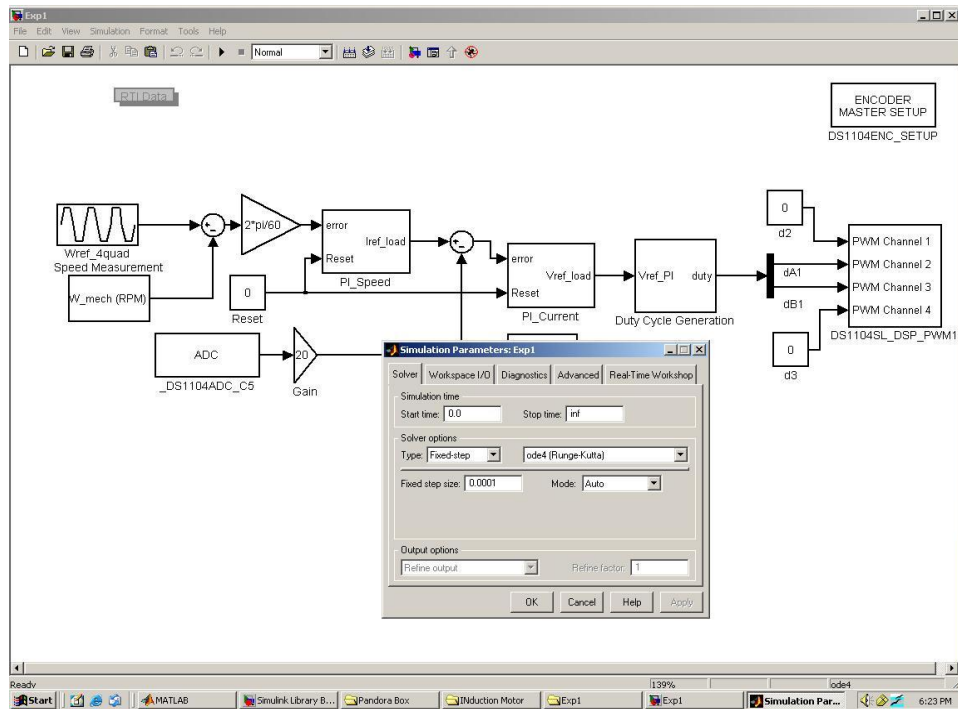

Figure 1.5: Simulink file Exp1.mdl, setting the simulation parameter
- The Simulink file **Exp1.mdl** will look as shown in Fig 1.5. Open the simulation parameters (Or could be Configuration parameters based on the MATLAB version) from the tools menu and set the parameters as shown in Fig 1.5. The fixed step size is the same as the discrete-step, which will be used by the DSP DS1104. This means that in every “discrete-step” the whole program (i.e. **control-system** in this case) will be executed, I/O data will be exchanged and the decision making will be done inside DS1104.